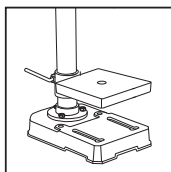

Fig3
■ TIGHTEN TABLE BRACKET LOCKING HANDLE TO SECURE TABLE ASSEMBLY. (FIG 3)